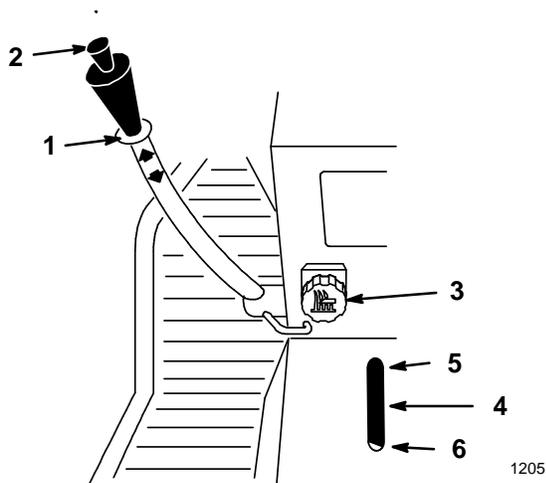

Figure 12
The attachment lift lever (Fig. 12) is used to raise and lower various attachments.
The Dial-A-Height control (Fig. 12) is used to limit the downward travel of the attachment. The Dial-A-Height knob is rotated to change the location of this stop, up or down.
1. Raise the attachment lift lever: Refer to Raising Attachments. In the raised, position the Dial-A-Height knob (Fig. 12) can be rotated to change the stop location. Turn right to raise and left to lower the height of the attachment.
2. The Dial-A-Height indicator (Fig. 12) will show the change, high to low, in attachment lift height as adjustment is made.